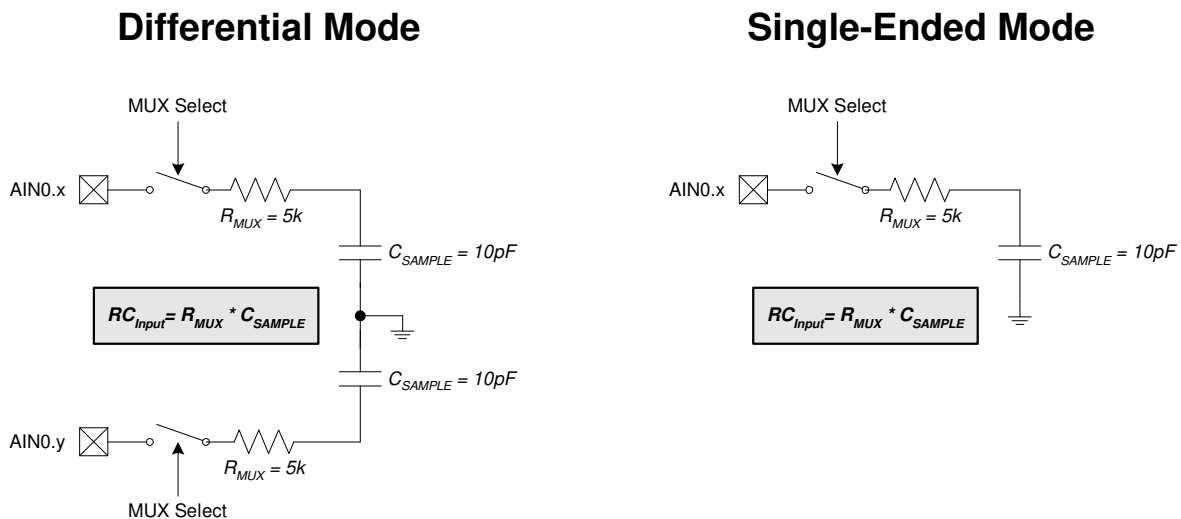

Figure 6.4. ADC0 Equivalent Input Circuits
A minimum tracking time is required before an accurate conversion can be performed. This tracking time is determined by the ADC0 MUX resistance, the ADC0 sampling capacitance, any external source resistance, and the accuracy required for the conversion. Figure 6.4 shows the equivalent ADC0 input circuits for both Differential and Single-ended modes. Notice that the equivalent time constant for both input circuits is the same. The required settling time for a given settling accuracy (SA) may be approximated by Equation 6.1. When measuring the Temperature Sensor output, R_{TOTAL} reduces to R_{MUX} . An absolute minimum settling time of $1.5 \mu s$ is required after any MUX or PGA selection. Note that in low-power tracking mode, three SAR clocks are used for tracking at the start of every conversion. For most applications, these three SAR clocks will meet the tracking requirements.